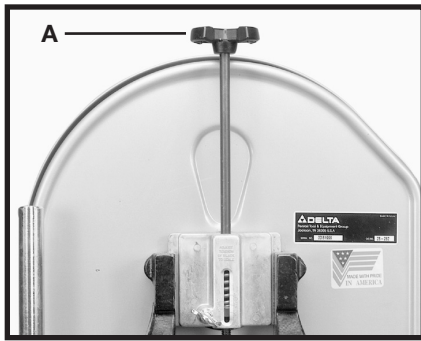
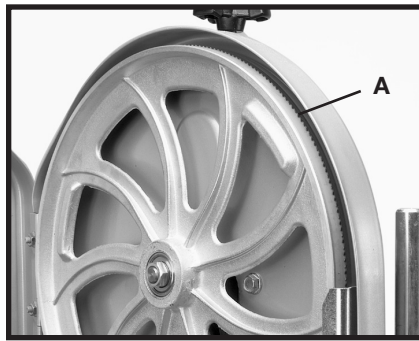
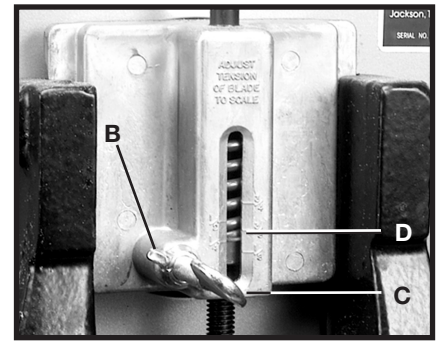

Fig. 23
Fig. 24
Fig. 25
A series of graduations is located on the back of the upper wheel side bracket. These graduations indicate the proper tension for various widths of blades. With the blade on the wheels, turn the knob (A) Fig. 23 to raise or lower the wheel, until the red fiber washer (D) Fig. 25 is in line with the proper graduation for the size of the blade used.
After applying tension to the blade, rotate the wheels slowly forward by hand and observe the blade's movement. The blade (A) Fig. 24 should travel just to the front of the center of the upper tire. If the blade creeps toward the front edge, loosen the wing nut (B) Fig. 25, and tighten the thumb screw (C). This will draw the blade toward the center of the tire. If the blade creeps toward the back edge, turn the thumb screw in the opposite direction. Adjust the thumb screw (C) Fig. 25 only a fraction of a turn each time. **NEVER TRACK THE BLADE WHILE THE MACHINE IS RUNNING.** After the blade is tracking just to the front of the center of both tires, tighten the wing nut (B) Fig. 25. Adjust the Blade Guides and Bearings.